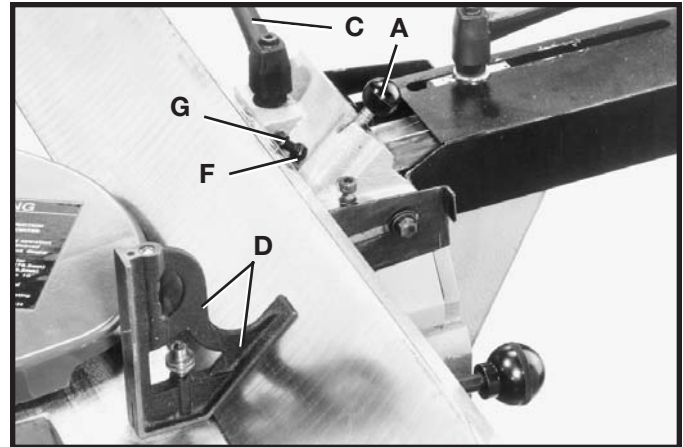

Fig. 52
5. Loosen lockhandle (C) Fig. 52, pull out and turn plunger (A) and tilt fence out as far as it will go. Then tighten lock handle (C).
6. Using square (D) Fig. 52, check to see if the fence is at a 45 degree outward angle from the table, as shown.
7. If an adjustment is necessary, loosen lockhandle (C) Fig. 52. Loosen locknut (F) and turn adjusting screw (G) until fence is tilted 45 degrees outward. Then tighten locknut (F).